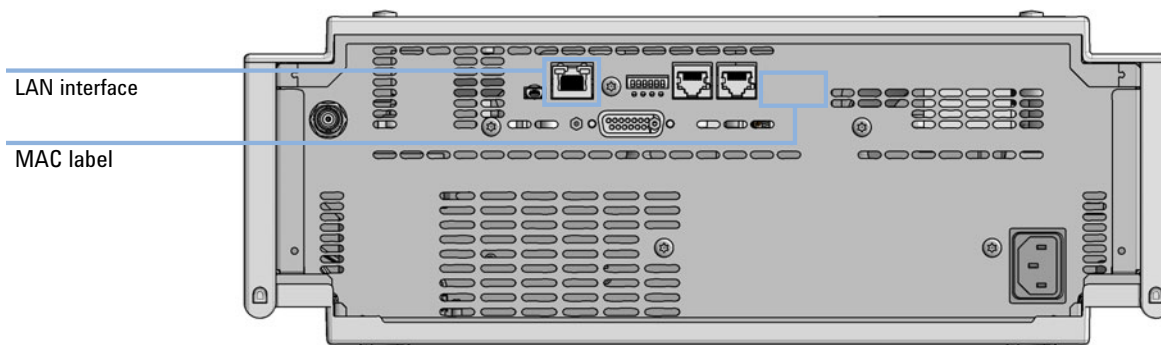

Figure 56 Location of LAN interfaces and MAC label
- 1 Note the MAC (Media Access Control) address for further reference. The MAC or hardware address of the LAN interfaces is a world wide unique identifier. No other network device will have the same hardware address. The MAC address can be found on a label at the rear of the module underneath the configuration switch (see Figure 56 on page 337).
- 2 Connect the instrument's LAN interface (see Figure 56 on page 337) to